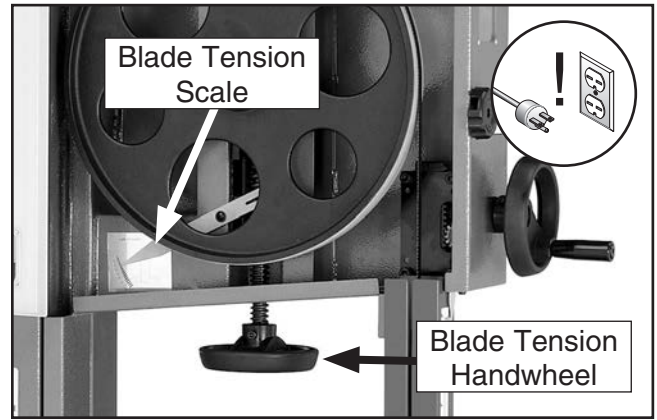

Figure 17. Blade tensioning controls.
3. Engage the quick tension lever and turn the blade tension handwheel until the tension scale (**Figure 17**) reads between 4 and 6.